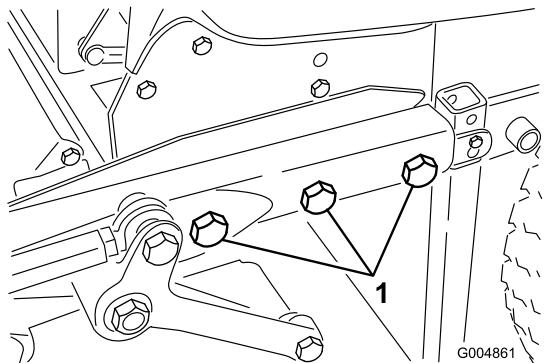

Figure 7
4. Roll the summer deck and frame into position and install the five 3/4 inch bolts, washers and nuts that connect the deck frame to the rear frame (Figure 7).